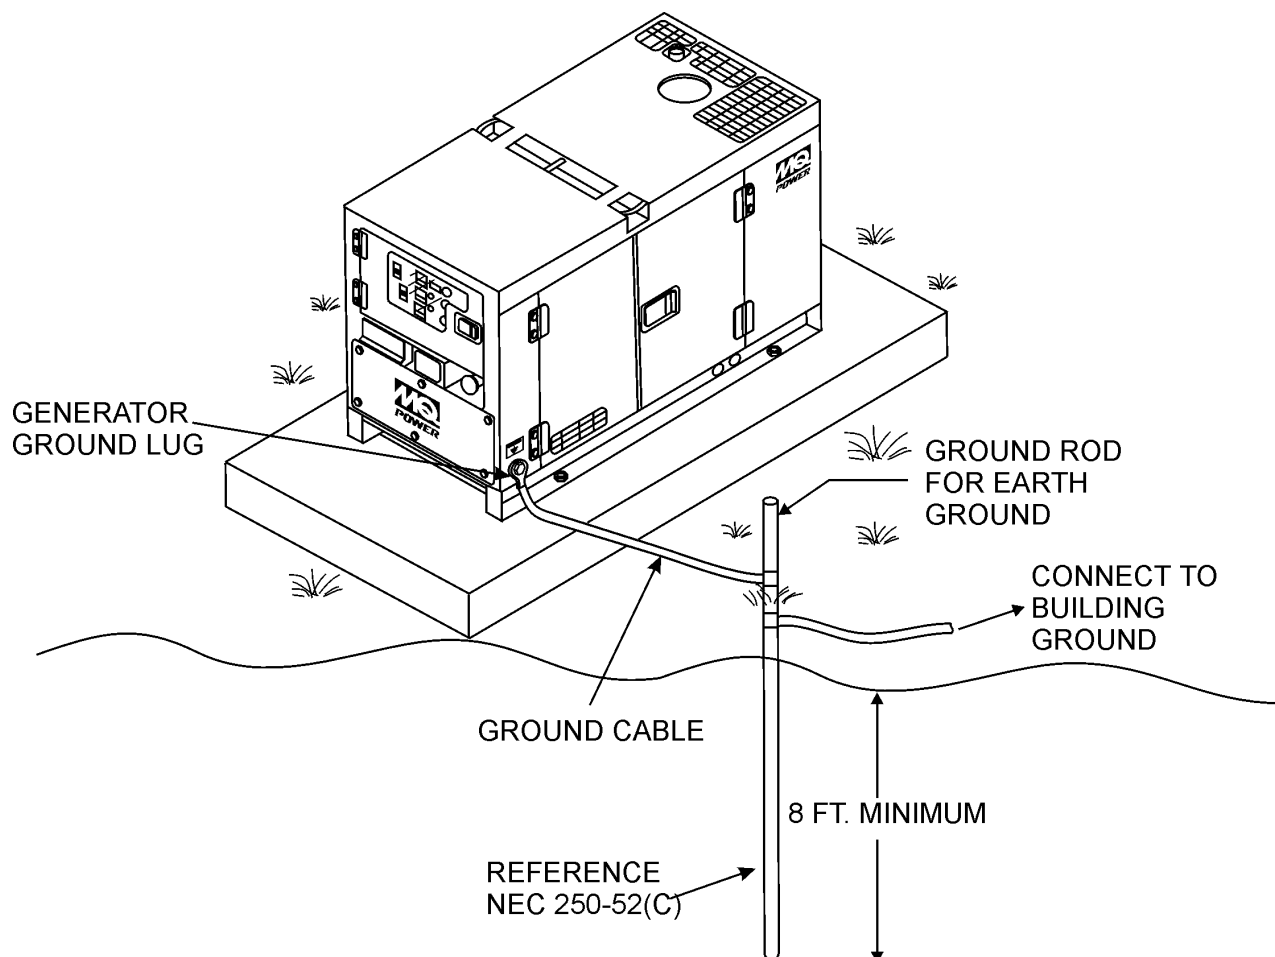

Figure 8. Typical Generator Grounding Application
2. When grounding the generator (Figure 8) connect the ground cable between the lock washer and the nut on the generator and tighten the nut fully. Connect the other end of the ground cable to earth ground.